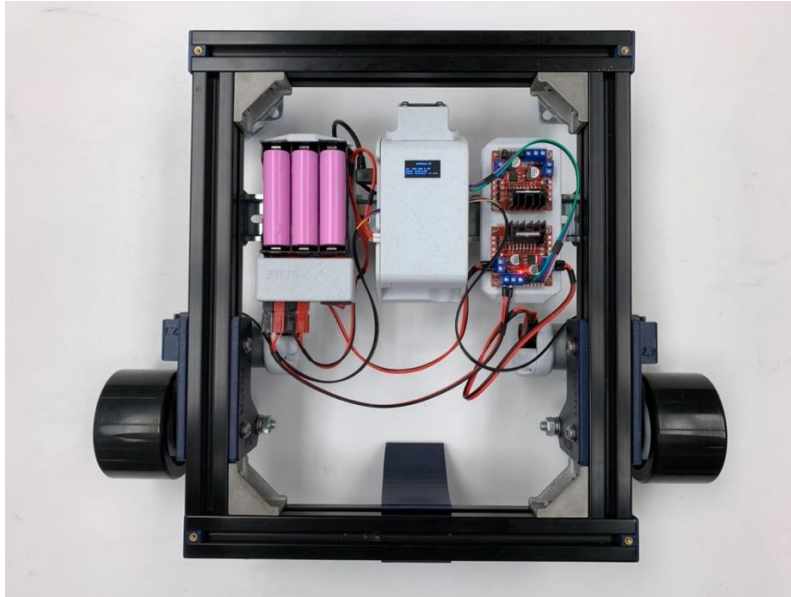

Figure 2: Complete SCUTTLE
3. Once your motors and H-bridge are set up, ask the TA to check your wiring **before** powering your Pi back on. Your completely assembled SCUTTLE should look like it does in figure 2.
- d. Also, understand that a right turn in relation to SCUTTLE's 1st person point of view is a negative $\dot{\theta}$. This would be a clock-wise turn from a bird's eye view. The same as you are looking at the path in figure 2.